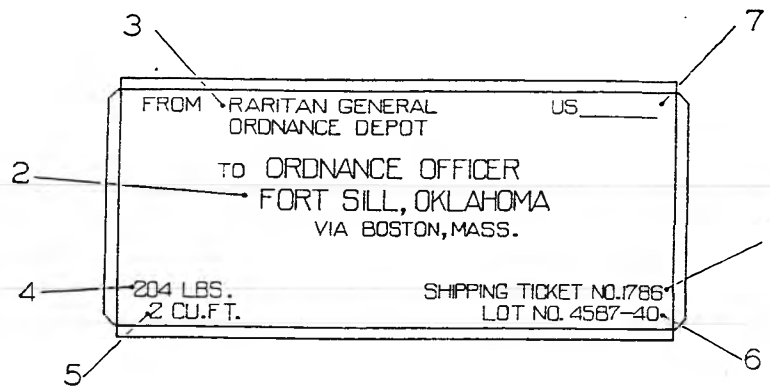

FIG. 17.—Address side for all packing boxes
(2) The system of marking packing boxes for the Mk. II chemical shell was changed when the system of marking the chemical ammunition was changed. The old marking system is shown in Figures 17 and 18 and the new marking system is shown in Figures 17 and 19.
(3) The marking which appears on the packing box for the Mk. I shrapnel is shown in Figures 17 and 20.
NOTE. Both ends of box are marked alike. For marking on side not shown (address side), see Figure 17.
NOTE.—Both ends of box are marked alike. For marking on side not shown (address side), see Figure 17.